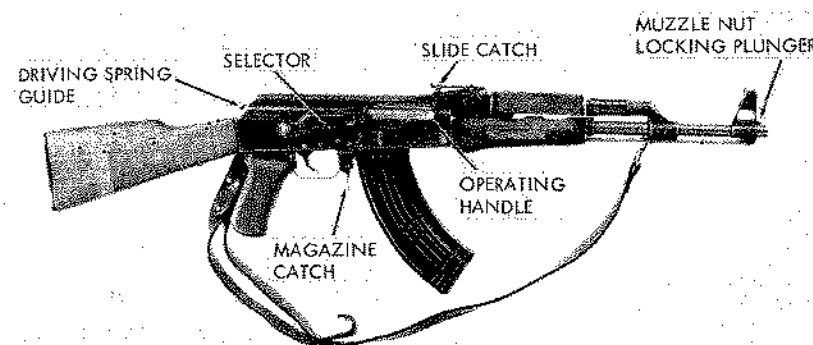

Figure 56. Typical AK-47 (Hungarian).
b. The Soviet designed Kalashnikov AK-47 assault rifle (fig 56), a gas-operated, selective fire, box magazine-fed weapon, was the major infantry arm for most Eurasian Communist countries. The Warsaw Pact Armies, however, have generally replaced the AK-47 with the similar, but improved, AKM assault rifle (sec III, subsec B). The AK-47 remains in wide use in Asia and is still used as a substitute standard weapon in most Warsaw Pact Armies. Large numbers of these weapons have also been passed to other
c. The AK-47 is produced in two different basic models—one with a conventional, fixed wooden butt stock (fig 56) and the other with a folding, metal shoulder stock (fig 58). There also are early and late production variations of the Soviet model. The earliest models have a stamped sheet metal receiver, without the magazine guide dimples of the later stamped receiver AKM (para 97), but with two prominent rivet heads (fig 59). Few parts
c. If necessary, press the selector (fig 56) down from the safe position; pull the operating handle fully to the rear and release it.
f. Set the rear sight for the desired range by pressing the slide catch (fig 56) and moving the sight bar along the leaf until the front edge of the bar is aligned with the line below the number that corresponds with the range in hundreds of meters. The first character on the sight leaf is a battlesight setting, used in combat for shooting at ranges up to 300 meters.
j. Remove the magazine by pressing the magazine catch (fig 56) toward the magazine; then swing the magazine forward and out of the receiver. Close the M64 bolt by pulling the operating handle slightly rearward and then releasing it.
(2) Press the serrated end of the driving spring guide (fig 56) into the bolt cover and, while holding the guide in, lift off the bolt cover, rear end first. If the rifle is a Polish PMK-DGN, press down and unlock the driving-spring guide lock (fig 63) before pressing the guide in; or if a Yugoslav M64, press in the lock at the left rear of the receiver before pressing the guide in.
(3) Press the driving-spring guide forward and disengage it from its seat; then pull the complete driving-spring assembly out of the bolt carrier.
(4) Pull the operating handle fully to the rear, left the bolt carrier slightly upward, and then remove the bolt and carrier to the rear.
(5) Press the bolt into the carrier until the bolt operating lug can be twisted free of its cam path in the carrier. Pull the bolt straight forward and remove it from the carrier.